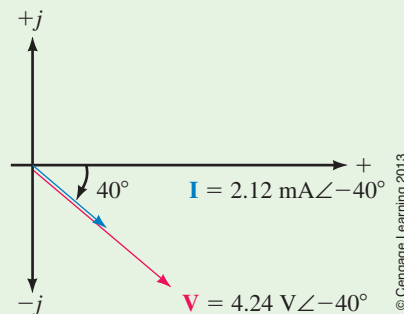

FIGURE 18-8
- The corresponding phasors for the voltage and current are shown in Figure 18-8.